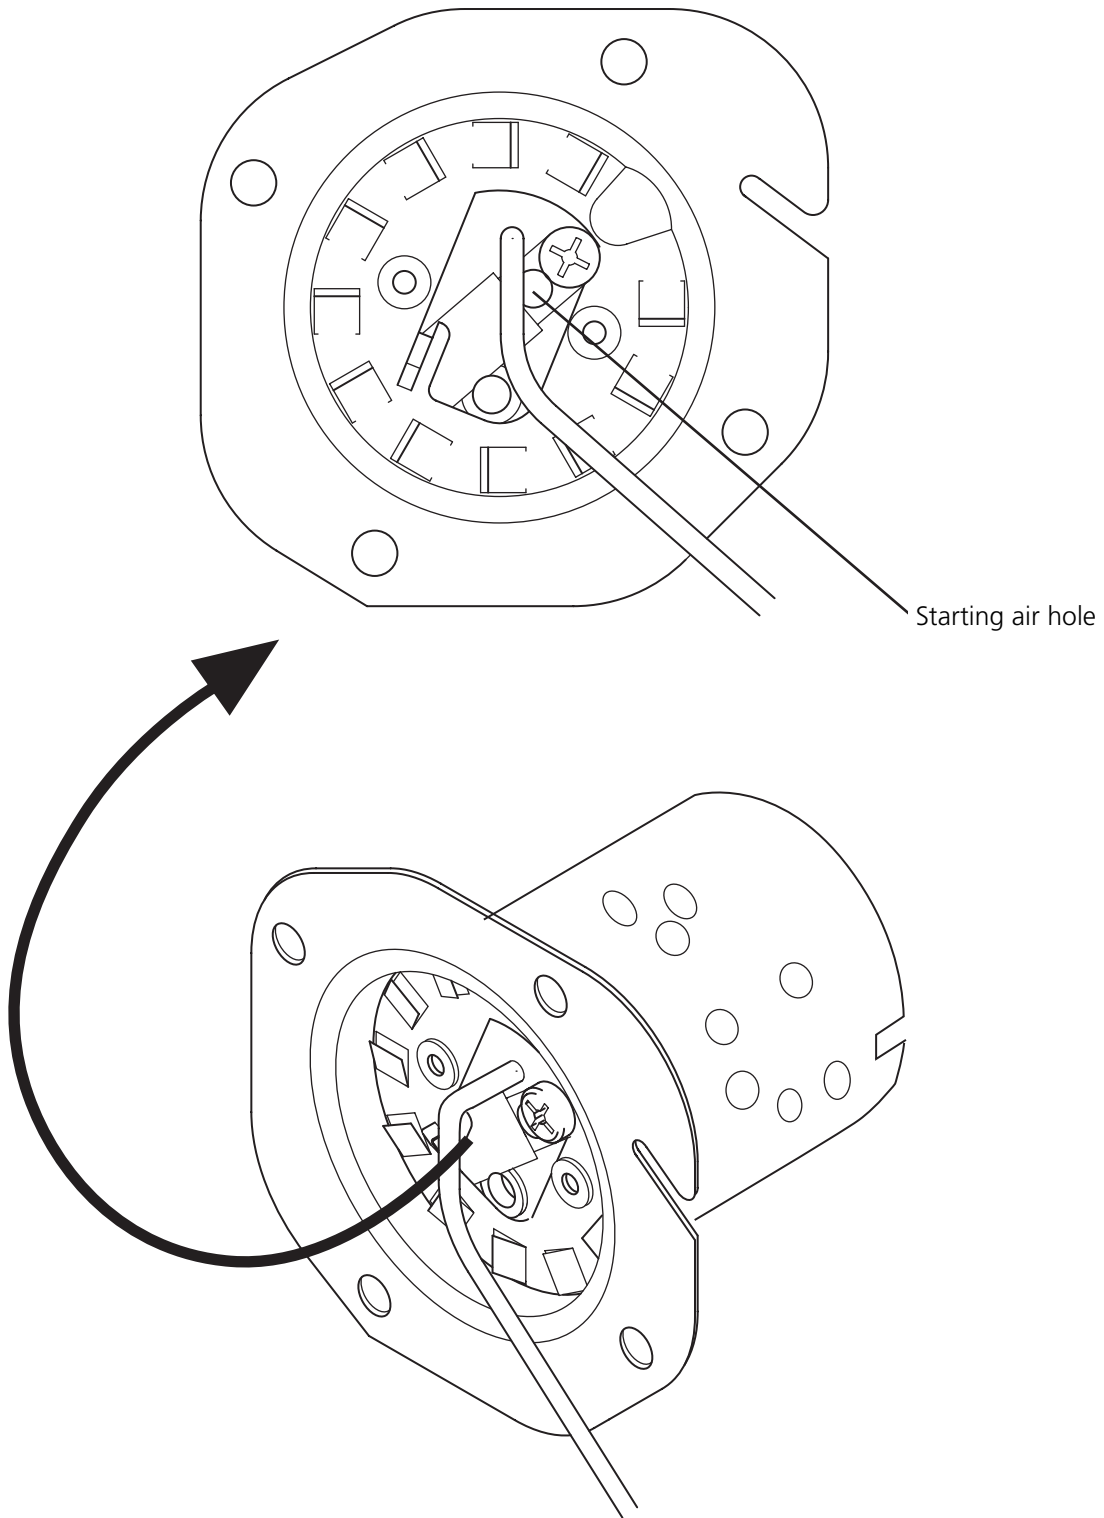

Figure 32: Starting air hole in burner insert
2. Check that the starting air hole in the burner insert (5) is free. If necessary, clean with a wire, approximately 4 mm Ø (5/32 in Ø) (see Fig. 32).